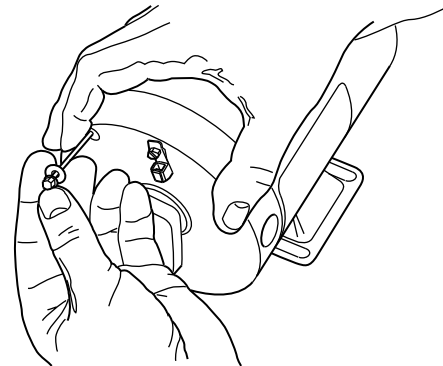
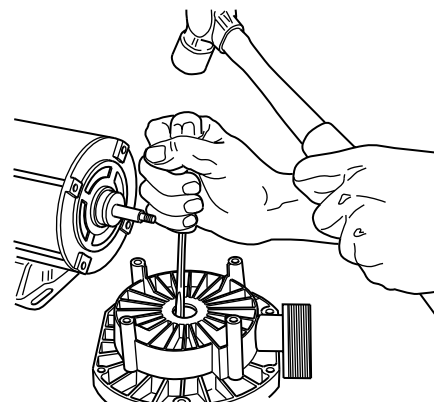

Figure 3
Figure 4
6. Carefully remove four motor throughbolts from seal plate (Figure 3); remove seal plate and use a screwdriver to tap ceramic seat out from the rear (Figure 4). Do not damage seal cavity in seal plate.